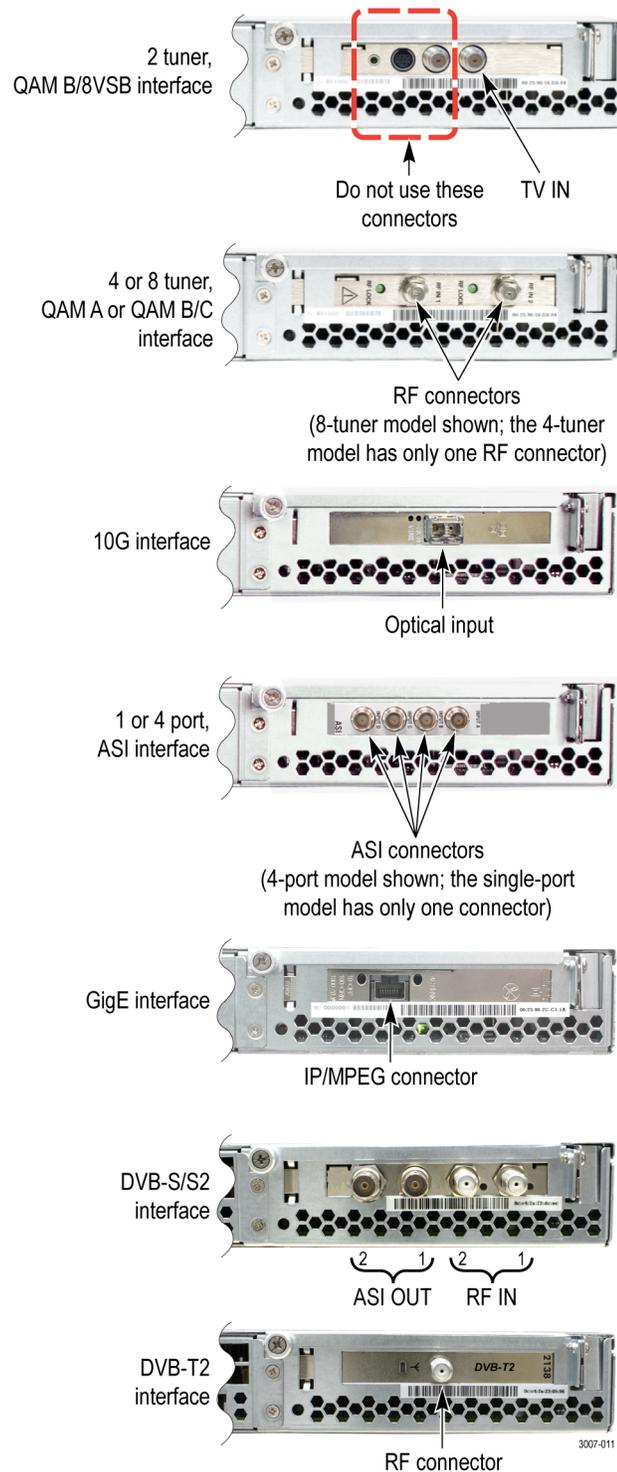

Figure 6: Sentry Series interface card connectors
2. If your instrument has the optional Ethernet-based transport stream input capability (GigE), connect one end of an Ethernet cable to the **IP/MPEG Input Port** on the rear of the instrument. Connect the other end of the cable to your video transport stream source. (See Figure 6 on page 17.)
3. If your instrument has an ASI, RF, or 10GbE interface, connect the appropriate signal cable(s) to the input connector(s). (See Figure 6 on page 17.)
After the instrument is installed and powered on, you need to configure the network parameters so that the instrument can be accessed by a computer through the Management Port. (See Figure 6 on page 17.)
1. Connect an Ethernet cable between the **Management Port** on the instrument and the Ethernet port on a standalone computer. (See Figure 6 on page 17.)